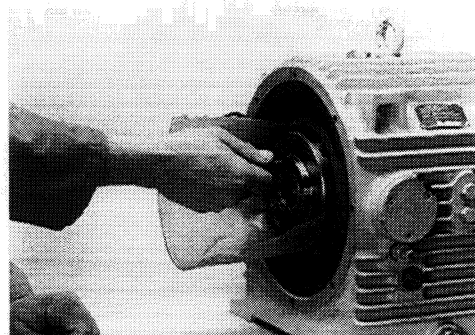

Fig. 7
**Pull out the input rotating group. The input rotating group should come out easily, using a bolt inserted as a handle (Fig. 7).**